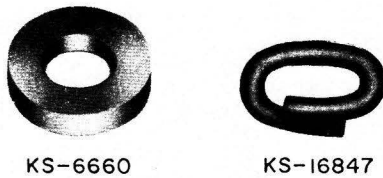

Fig. 3—KS-6660 and KS-16847 Indicators
7.01 Common protective devices used on special service circuits are shown in Fig. 3 through 17.
INDICATORS (Fig. 3)